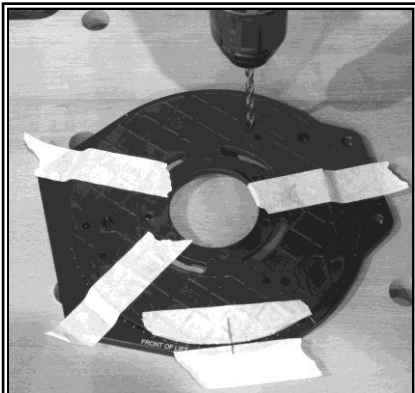

Figure 38
6. Locate the correct drill bit size and transfer the mounting hole locations from your sub base to the blank plate. Use your drill to just spot these holes on your blank plate then remove the sub base and finish drilling the holes. From the other side of the blank plate counter sink or counter bore these holes to suit the router mounting screws. You may need to source the correct size screws at your local hardware store. (Figure 38)